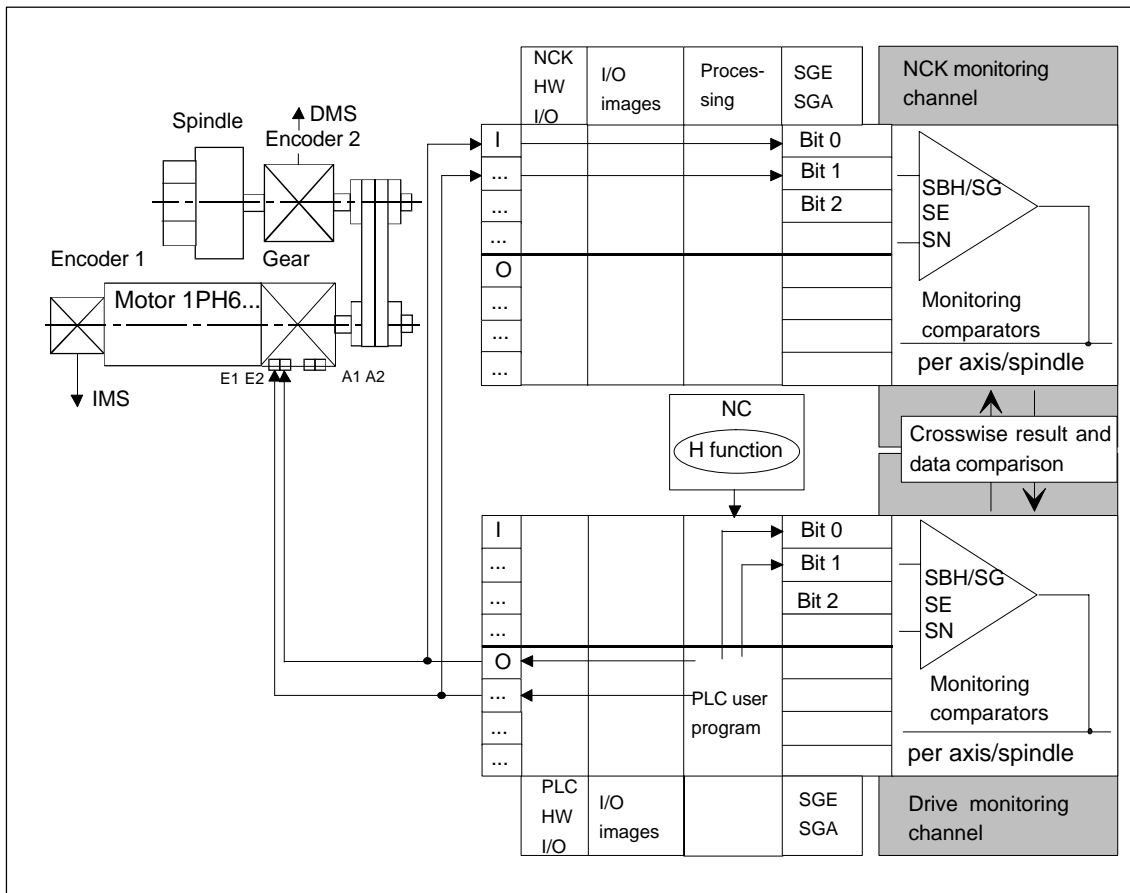

Fig. 10-56 Spindle with a 2-encoder system
In this case, a differentiation is made between a 2–encoder system (example 1, refer to Fig. 10-56, "Spindle with 2–encoder system") and a 1–encoder system (example 2, refer to Fig. 10-57, "Spindle with a 1–encoder system").
- If the SE or SN safety functions are used for the spindle, then the gearbox stage changeover must also be activated in the NCK channel (request signals E1/E2, refer to Fig. 10-56). This is necessary so that the two channels have the state "axis not safely referenced" as a result of the gearbox stage changeover. The machine data settings for the input assignment, gearbox ratio selection (bits 0, 1, 2) for the NCK are described in Chapter 6.1 "Machine data for SINUMERIK 840D".